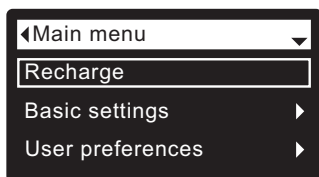
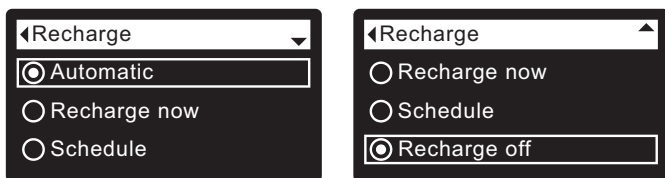
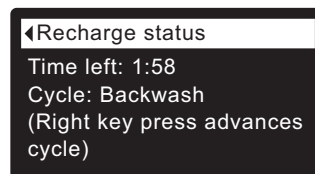

FIG. 38
FIG. 39
FIG. 40
2. Make sure **Recharge** is highlighted (See Figure 38).
3. Press the SELECT (O) button to display the Recharge menu (See Figure 39).
4. If the desired option already has a dot next to it (See Figure 39), go to Step 5. Otherwise, press the DOWN (▼) or UP (▲) buttons to scroll to the desired option, then press SELECT (O) to choose it.
- **Recharge now** begins a recharge immediately after the SELECT (O) button is pushed again in Step 5.
5. Press the SELECT (O) button. If **Recharge now** is selected, the display immediately goes to the Recharge status screen (See Figure 40). If **Automatic**, **Schedule**, or **Recharge off** are selected, the display goes back to the Main menu (Figure 38).